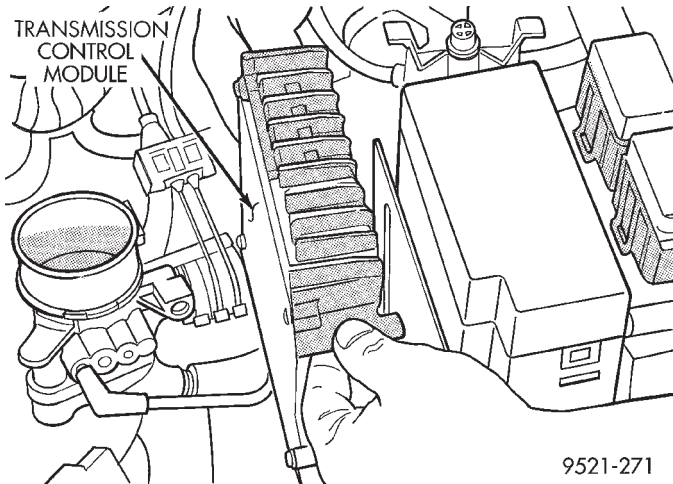

Fig. 40 Transmission Control Module
- (2) Remove air cleaner duct.
- (3) Remove transmission control module (TCM) and wiring (Fig. 40).